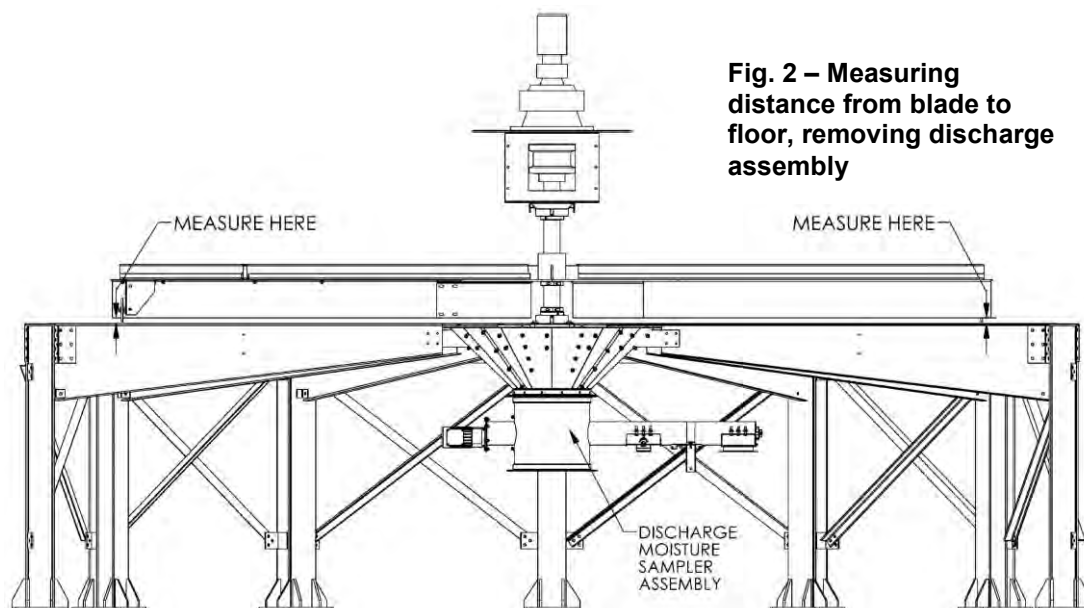
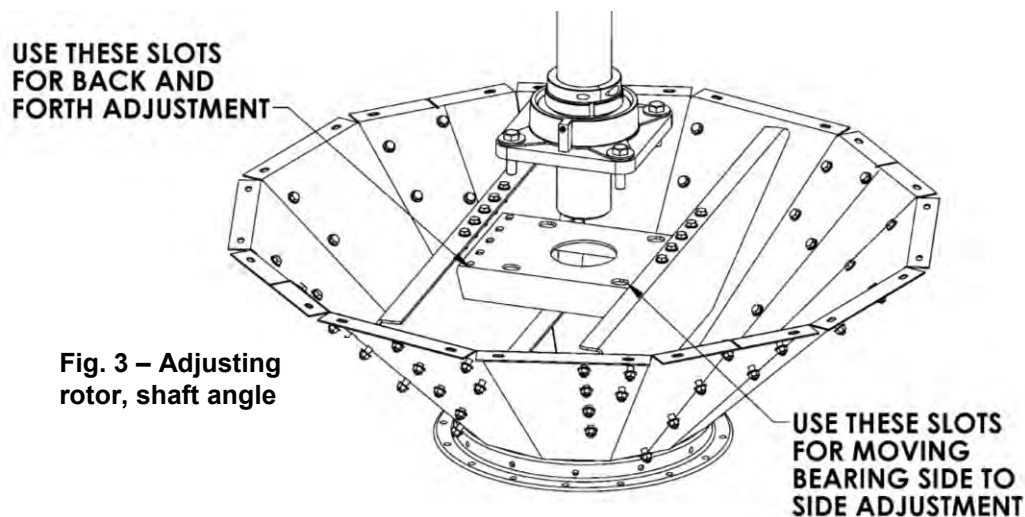

Fig. 2 – Measuring distance from blade to floor, removing discharge assembly
Fig. 3 – Adjusting rotor, shaft angle
1. **Make sure bottom of scraper blades are parallel to grain floor.** Choose one scraper blade and measure distance from bottom of blade to grain floor. See Fig. 2. Run unload rotor and stop it every 90° to check the same measurement. If measurements vary by more than 1/2", adjust angle of rotor and shaft.
2. **Adjust rotor/shaft angle to grain floor.** Start by loosening four bolts for upper bearing, but do not remove bolts. Next, remove discharge moisture sampler assembly. See Fig. 2. This will provide access to lower bearing bolts and bottom of rotor shaft. Loosen four bolts on lower bearing and 10 bolts on lower bearing plate, but do not remove bolts. Lower bearing bolts are in slots in one direction and bolts holding bearing plate in are slotted in other direction. See Fig. 3. Using a pry bar from under dryer, push rotor shaft in direction needed to equalize measurements taken in Step 1. **NOTE:** On some tower dryers there may not be slots in lower bearing plate. If necessary, use a grinder to make slots or use slightly smaller bolts for lower bearing. Retighten all bolts once shaft has been adjusted.